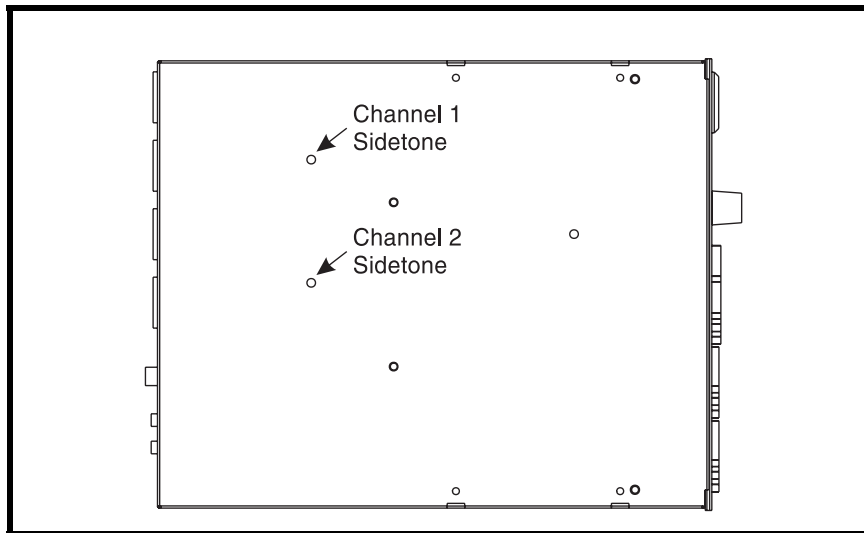

FIGURE 16. US2002 Bottom View
4. Using a small flat-bladed screwdriver, **adjust the channel 1 sidetone** through the access hole in the bottom of the US2002 (Figure 16) to minimize the tone volume.